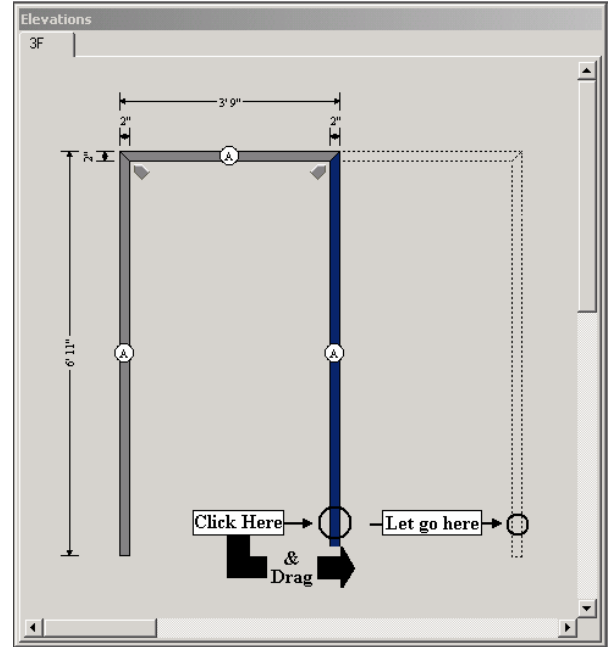

Figure 11
- See figure 11. Notice that the head frame stretched while moving the vertical frame member. This “rubber-banding” effect worked because the horizontal frame stretched between the two vertical frames and attached itself to those pieces when we originally created it. You will not be able to attach frame pieces manually, and if drawing objects don’t attach to each other, they won’t be able to utilize the “rubber-banding” effect.